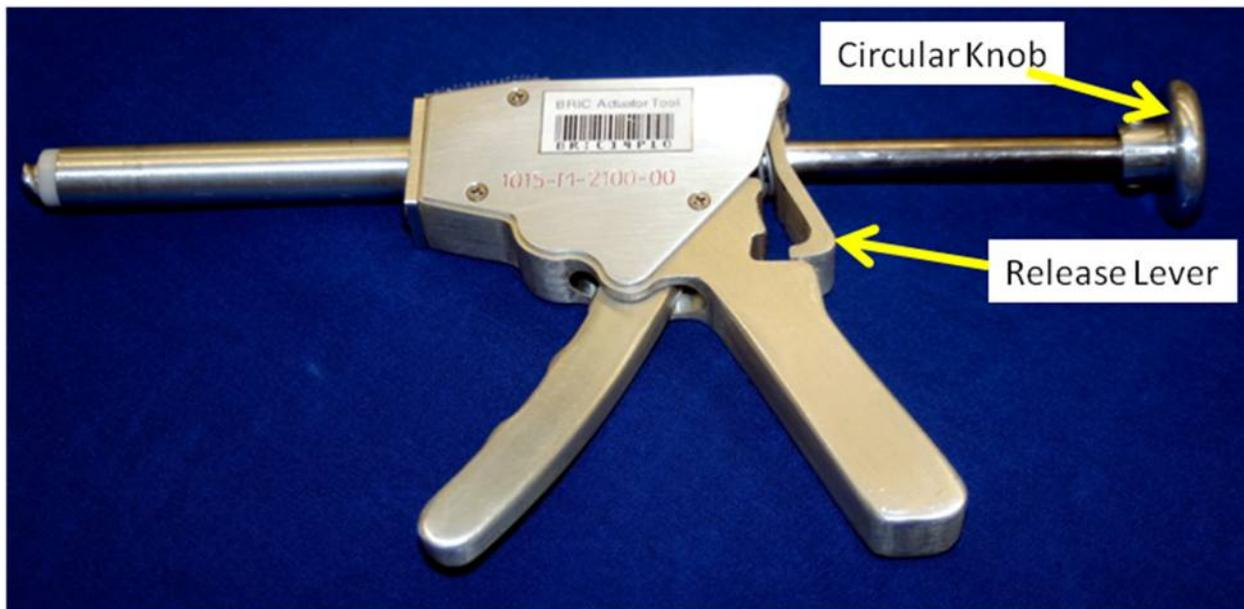

Figure 1. Actuator Tool.
1.5 Unstow BRIC Actuator Tool (shown in Figure 1) and BRIC Actuator Rod kit.